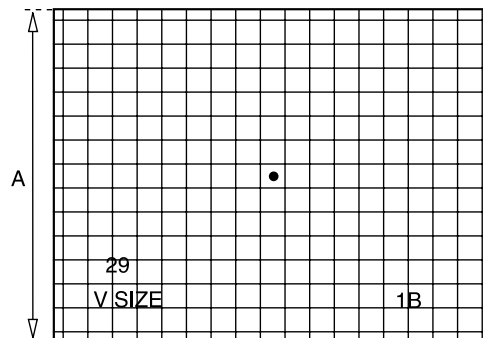

Fig. 3-5
- Use the volume keys on the jig remote controller and adjust A to position the dot mark in the center of the exact vertical centre of the crosshatch pattern on the screen and regularize the squares of the crosshatch pattern. (Fig. 3-5)